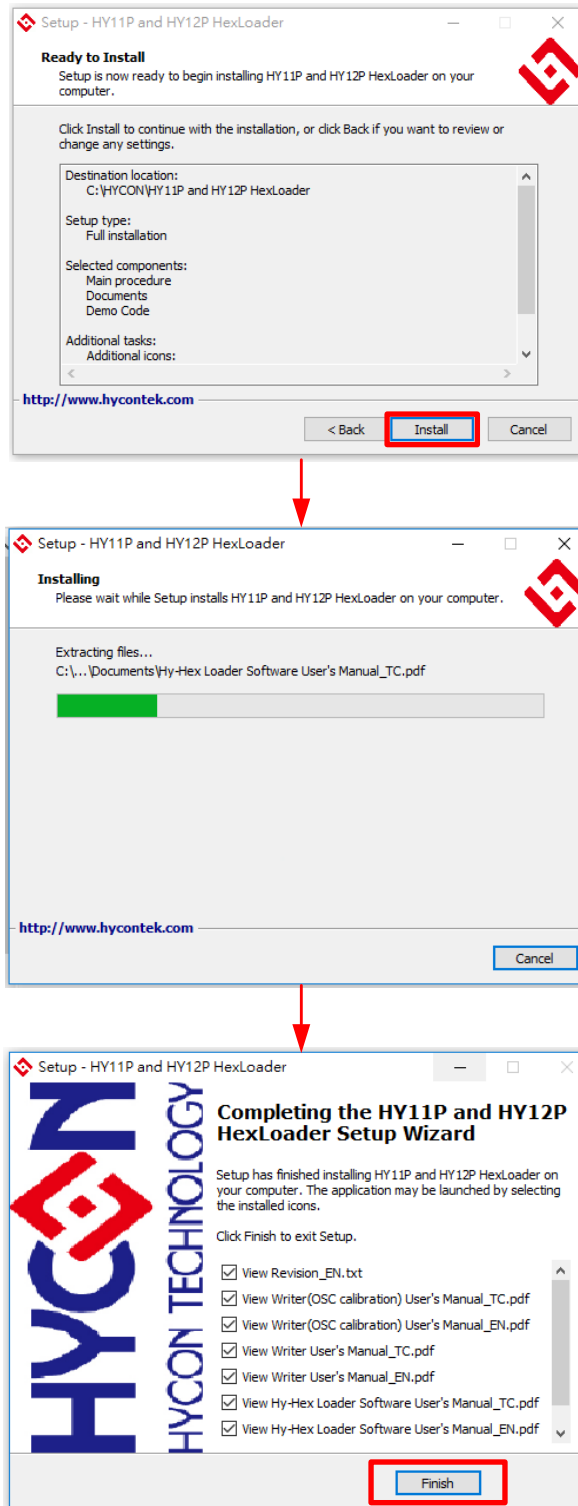

Figure 1-1
- Following the instruction window dialogs step by step to continue setup procedures. As shown in Figure 1-1.